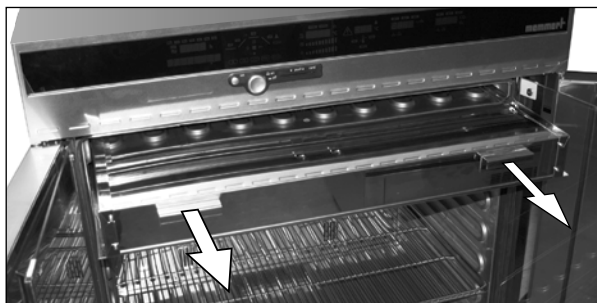

Fig. 35 Pull out the illumination box
2. Pull the illumination box out of the appliance on both handles (Fig. 35).